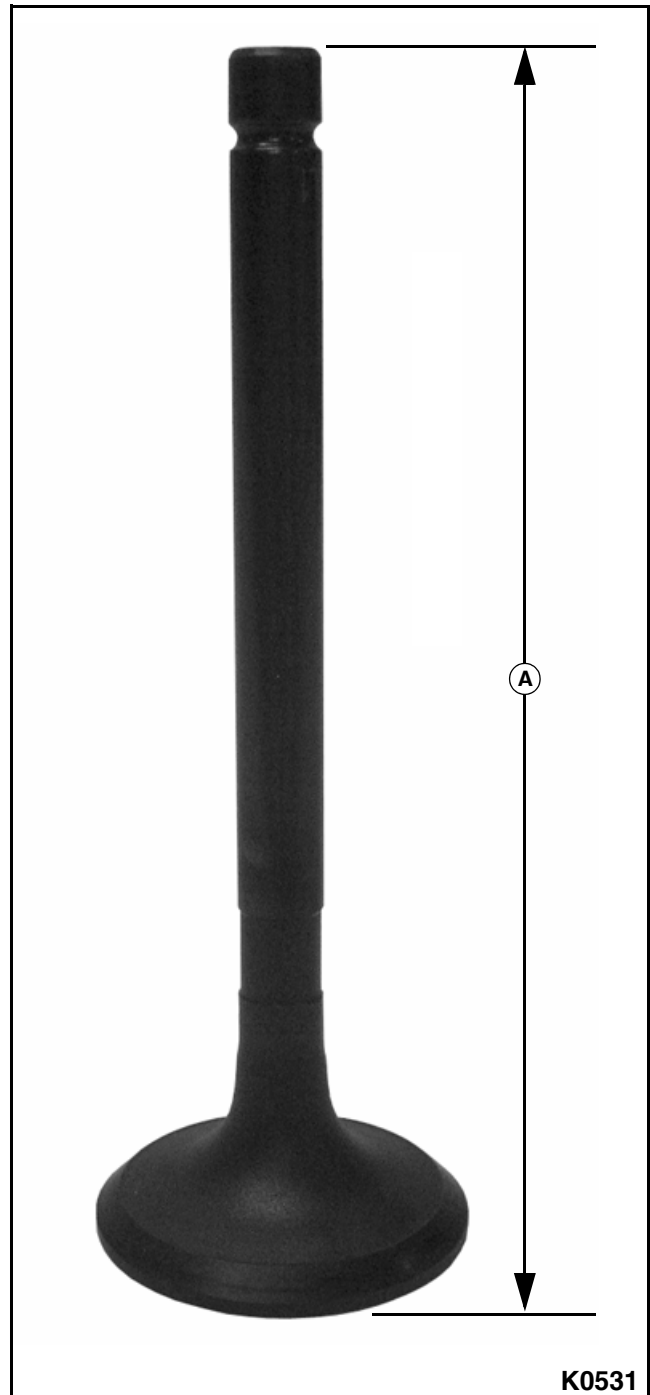

Figure 3-141
9. Measure the overall valve length (A). See Figure 3-141.